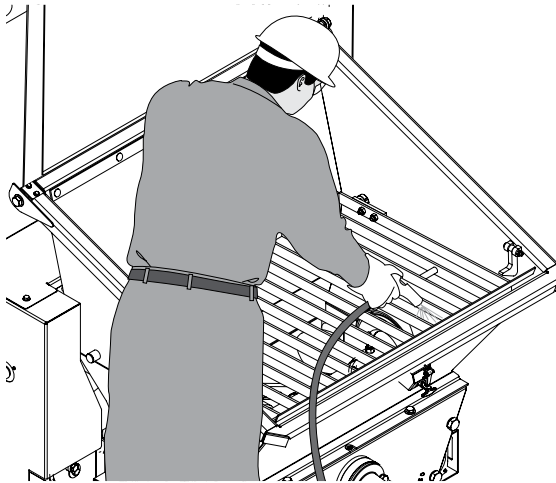

Figure 23
- Keep the agitator turning until you have sprayed the blades clean (Figure 23). Wash the material from the hopper out of the cleanout door on the bottom.